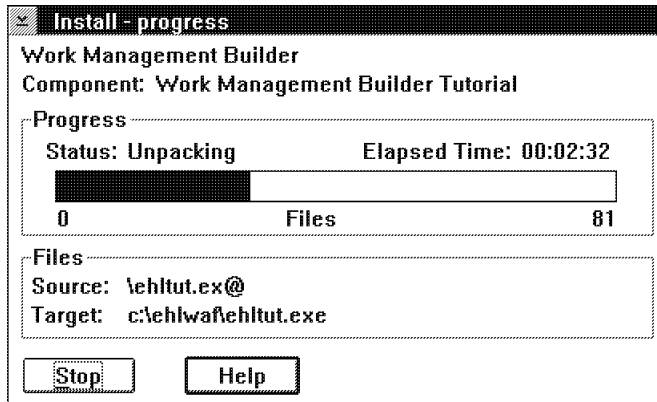

Figure 5. Install - Progress Window
12. Click on the **Install** push button to transfer the product files. You see the Install - progress window shown in Figure 5.